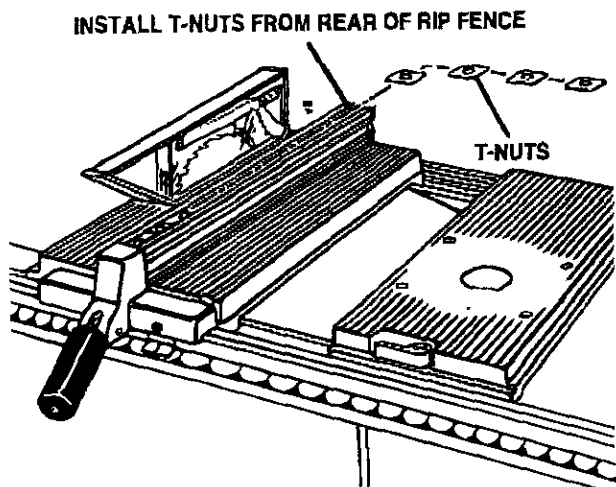

Fig. 3
- Slide the four remaining t-nuts into the top channel of the rip fence. See Figure 3.